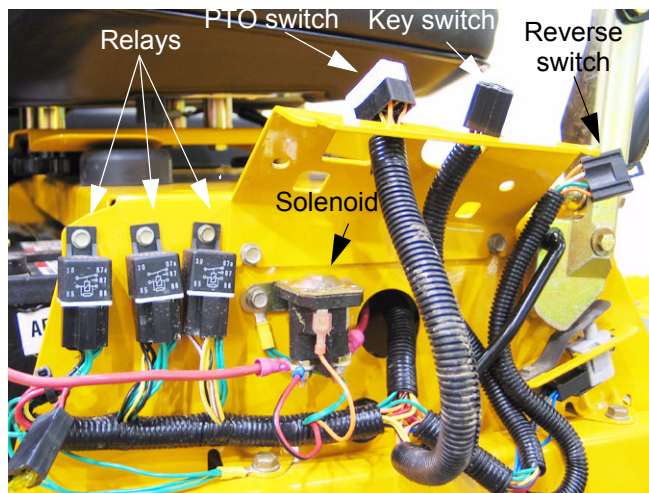

Figure 10.9
- 10.9. If any electrical connections are present disconnect or remove switch from console. See Figure 10.9.